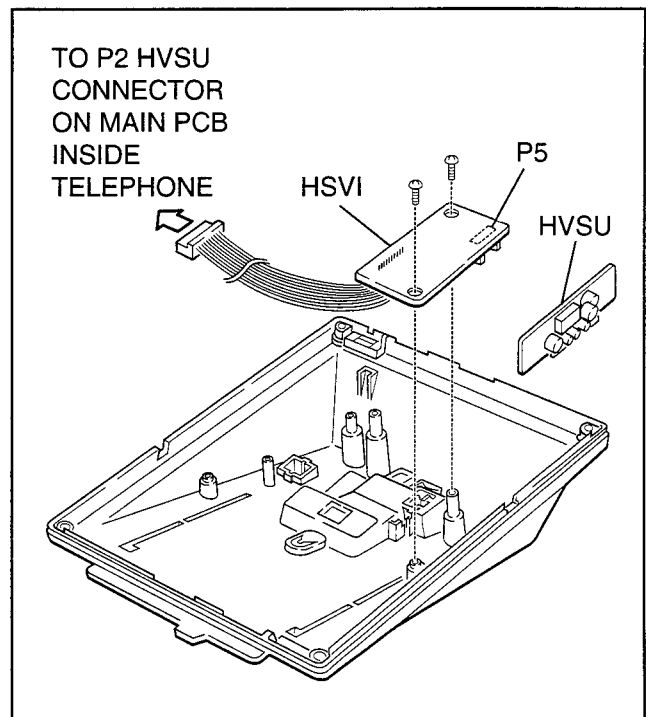

FIGURE 6-14
- 2) Align the **P5** connector on the HVSI subassembly with the receptacle on the HVSU subassembly (Figure 6-14). Apply firm, even pressure to the PCBs to ensure that the connectors mate properly (they should click).
- 3) Position the HVSU/HVSI subassembly on the standoffs inside the base, and secure with the two screws provided (Figure 6-14).